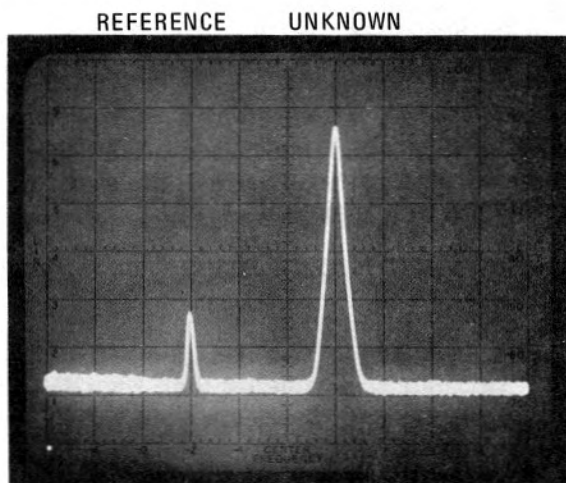

Figure 3-4. Using a Reference Signal to Measure An Unknown Frequency
**3-35.** Since the frequency scan is very linear, absolute frequency can be determined by comparing the unknown signal to a known reference frequency. (The HP 8406A Comb Generator provides a comb of reference signals spaced at 100, 10 and 1 MHz for reference purposes). The reference and unknown signals are simultaneously applied to the analyzer; both frequencies can then be read directly from the CRT. A typical example is shown in Figure 3-4; the reference frequency was derived from the HP 8406A. The unknown frequency was read from the analyzer dial as about 380 MHz. The comb reference is known to be 385 MHz  $\pm 0.01\%$  ( $\pm 38.5$  kHz) and the scan width is 50 kHz per